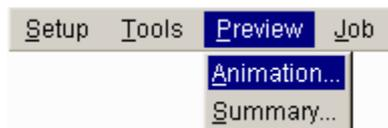

Figure 7.51 Animation menu
1. Select **Preview**→**Animation...** in the menu bar. See Figure 7.51.